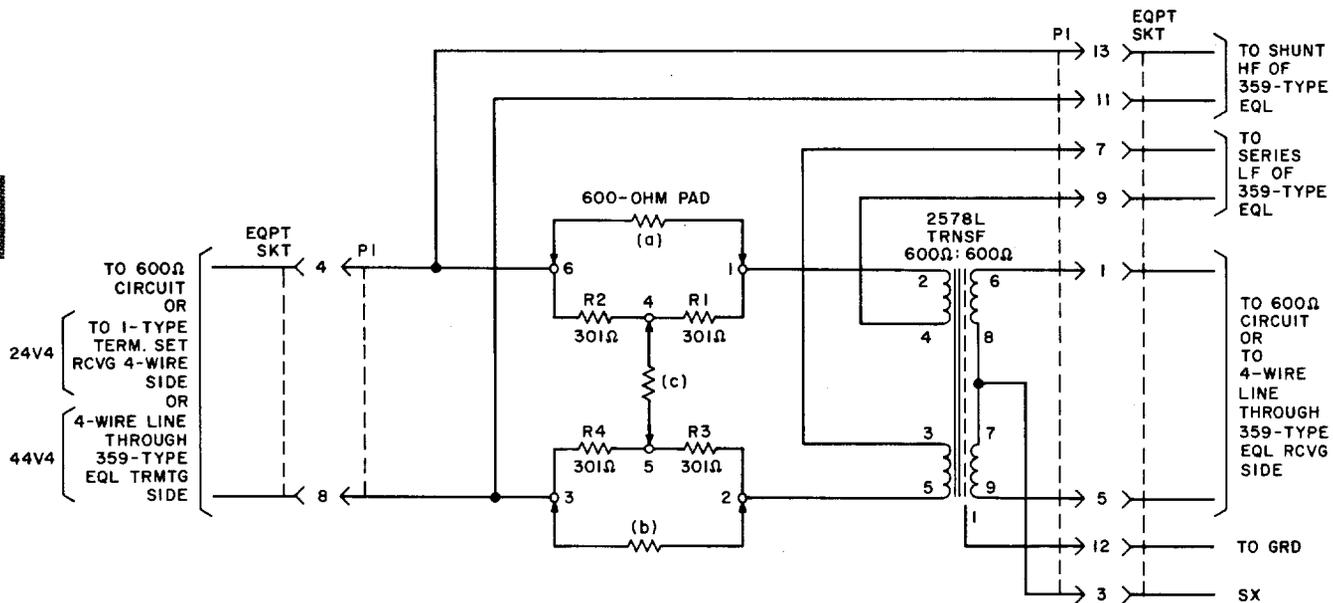

Fig. 2 — 849G Network — Schematic and Typical Circuit Connections
3.01 Fig. 2 is a schematic of the 849G network showing typical circuit connections. Transmission signals from a 600-ohm source are applied to terminals 1 and 5. Terminals 4 and 8 connect the output to 600-ohm repeater circuits. Terminals 7 and 9 connect the low-frequency section of the associated 359-type equalizer in series with the transformer. Terminals 11 and 13 bridge the high-frequency section of the associated 359-type equalizer across the line. When equalization is not required, terminals 7 and 9 are strapped in the associated 359-type equalizer to provide circuit continuity in the transformer and terminals 11 and 13 are left unconnected.